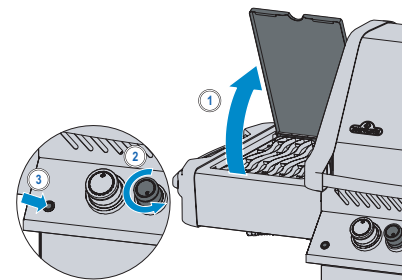

Fig. 2
4. If the burner will not ignite – turn burner control knob clockwise to the OFF position. Wait 5 minutes. Repeat step 2 and 3. (Fig. 2)